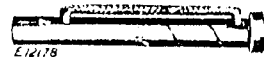
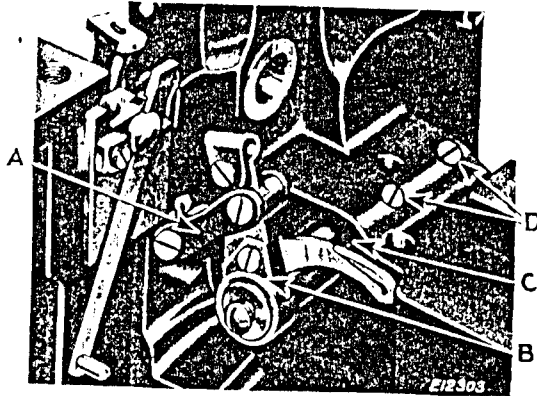

Fig. 25
Fig. 33
Wick 132552 is threaded in hinge stud 132798, as shown in Fig. 25.
slightly tighten set screw (A, Fig. 32). Insert hinge pin (H, Fig. 32) into the hole of the casting indicated at (F) and into the sleeve of the looper lever, then enter the end of the hinge pin into the bushing (C), having the wick in the pin at the bottom of the split bushing. The flat of the hinge pin shown at (G) will then be in position to receive the set screw (E) and the wick in the shoulder of the hinge pin will be in contact with the primary wick (A, Fig. 6). Then insert the left hand lever hinge stud (Fig. 25) through the hollow of looper lever (B, Fig. 33) and into the hole (C) of the casting, being careful to see that the oil wick in the hinge stud is central at the bottom to make contact with the primary wick (H, Fig. 6). Push the stud (Fig. 25) in as far as possible without binding, then securely tighten set screws (D, Fig. 33). Move the looper lever (D, Fig. 32) to the right or left, as required, so that there is a little sidewise play in the connecting links (A, Fig. 33) of the right and left hand loopers. Then move the split bushing (C, Fig. 32) over to the looper lever (D, Fig. 32) leaving it free so as not to bind. Firmly tighten the set screws (A and E, Fig. 32).